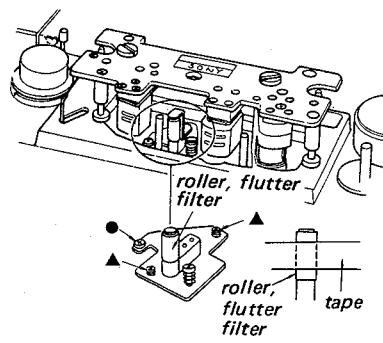

Fig. 3-1-3. Flutter filter roller adjustment
See Fig. 3-1-3.
- (1) Remove the Head Cover.
- (2) Thread a tape and set the unit to the play mode.
- (3) Adjust the height of the Flutter Filter Roller by the screws marked  $\bullet$  in Fig. 3-1-3 so that the tape runs through the middle of the Flutter Filter Roller.
- (4) Turn the screw marked  $\bullet$  in Fig. 3-1-3 to perform the azimuth adjustment of the Flutter Filter Roller.
- (5) For zenith adjustment turn the two screws marked  $\blacktriangle$  in Fig. 3-1-3 to contact the tape uniformly with the record and playback heads.
- (6) Make sure that the Flutter Filter Roller smoothly rotates during tape running. Apply lock paint to the adjusting screws.